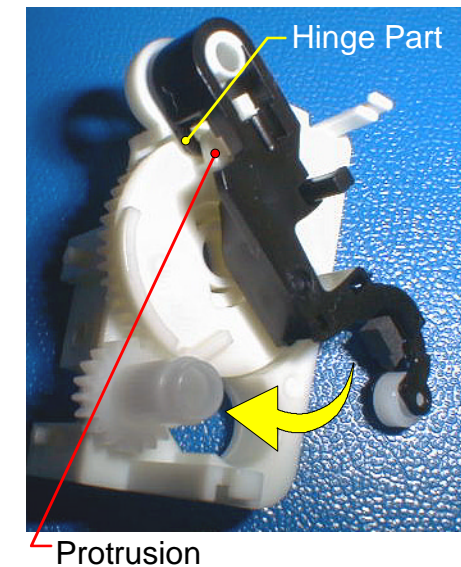

Figure 4-145. Setting "Lever Assembly, Curl(2)"
6. Move the "Lever Assembly, Curl" toward arrow direction (toward "Gear 10"), as it is indicated in figure4-145, until it stops. At this time, make sure that hinge part of "Lever Assembly, Curl" is pierced through the inside of protrusion on the "Gear, 24". (See figure4-145)